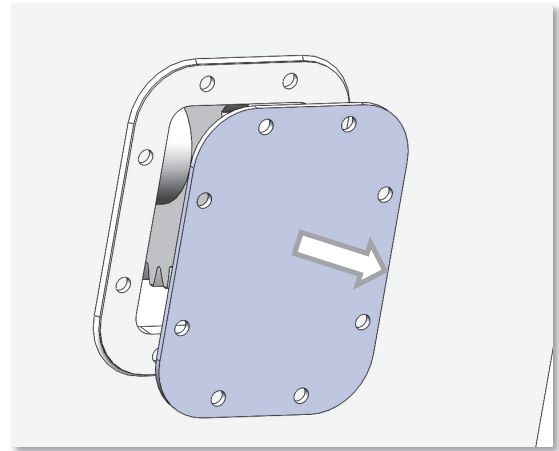

Fig. 1
2. Remove the cover plate from the PTO aperture on the transmission (Fig. 1).